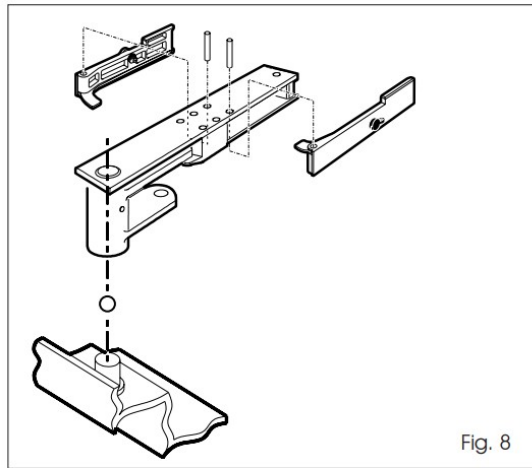

Fig. 8
1. Assemble the release levers on the support bracket, and fit the latter on the pivot in the foundation box, also inserting the supplied ball (Fig. 8).